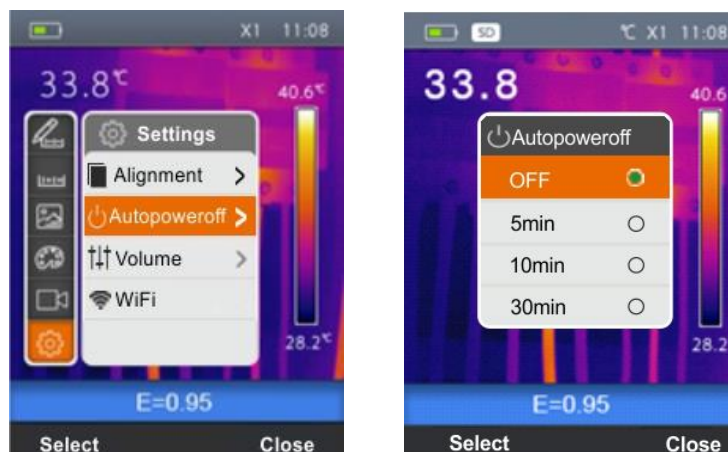

Fig. 14: Setting the alignment distance
1. Select the item “Auto power-off” using the keys $\oplus$ or $\ominus$ and press the key $\Rightarrow$. The screen Fig. 14 – Right side is shown on the display